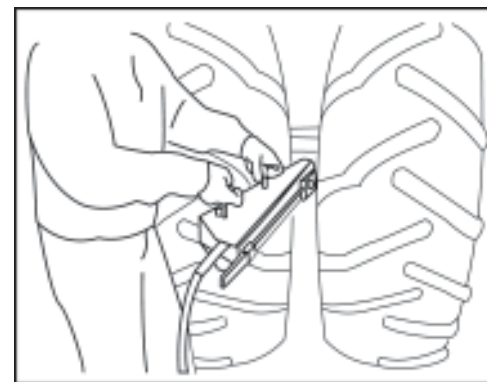

Figure 1
3. Place the #10106 tool between the duals as shown in **Figure 1**. With the drive spade **(A)** faced toward the inside bead of the outside dual, place the tip of the tool against the side wall of the tire as close to the rim lip as possible.